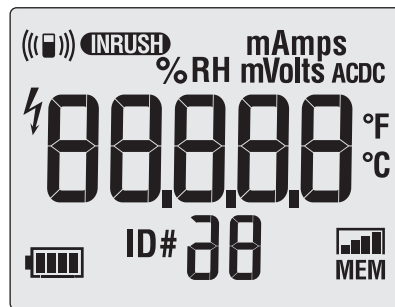

Figure 4. Display Segments
2. Push **⓪** while you keep **LOG** pushed until all of the display segments are shown. See Figure 4.